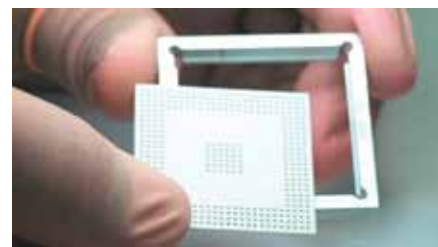

Figure 1
3. Place suitable solder ball paper carrier into fixture (ensuring paper carrier is the correct way up). (See Figures 1 and 2.)